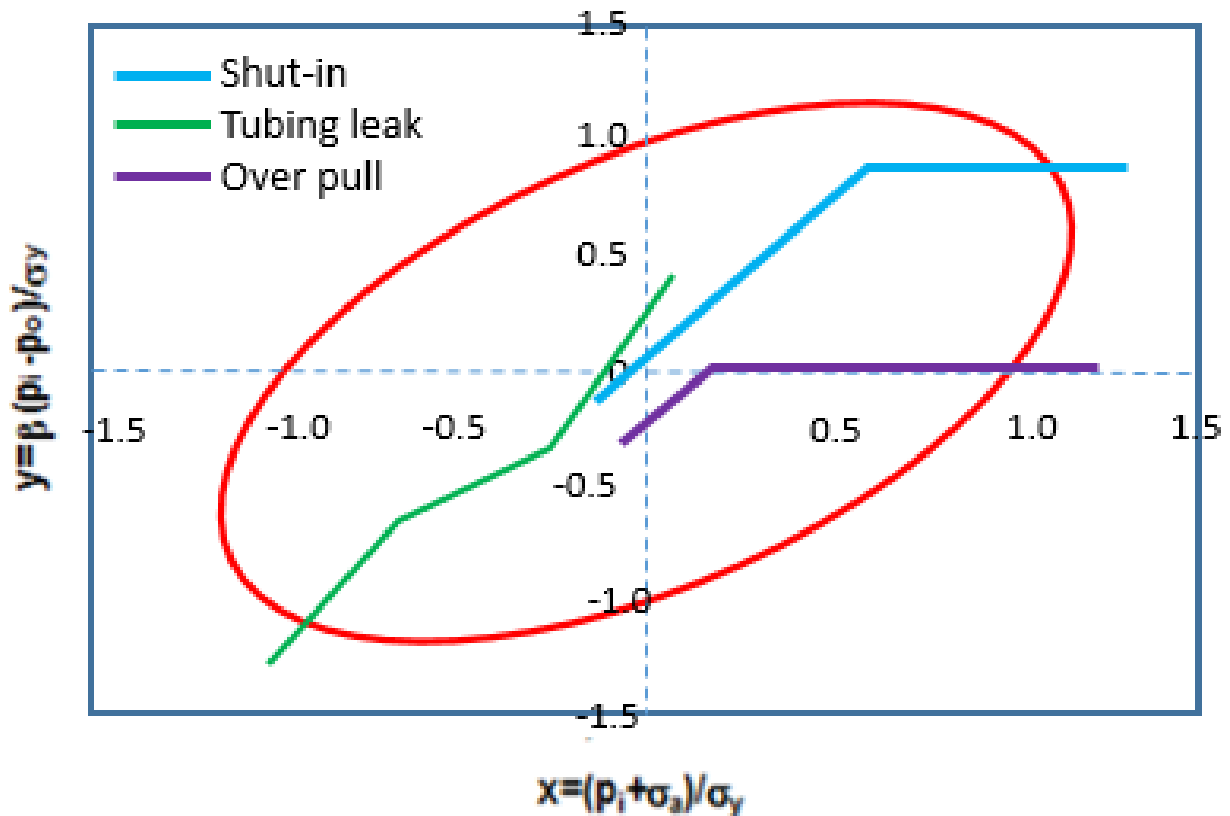

Figure 8: Dimensionless Von-Mises Failure analysis for tubing
- 19 In Figure 8, three loadings are shown. What is the condition of tubing due to the given three loading? If failure, what kind of failure (burst or collapse, or tensile) and under what axial load condition (compression or tension)?